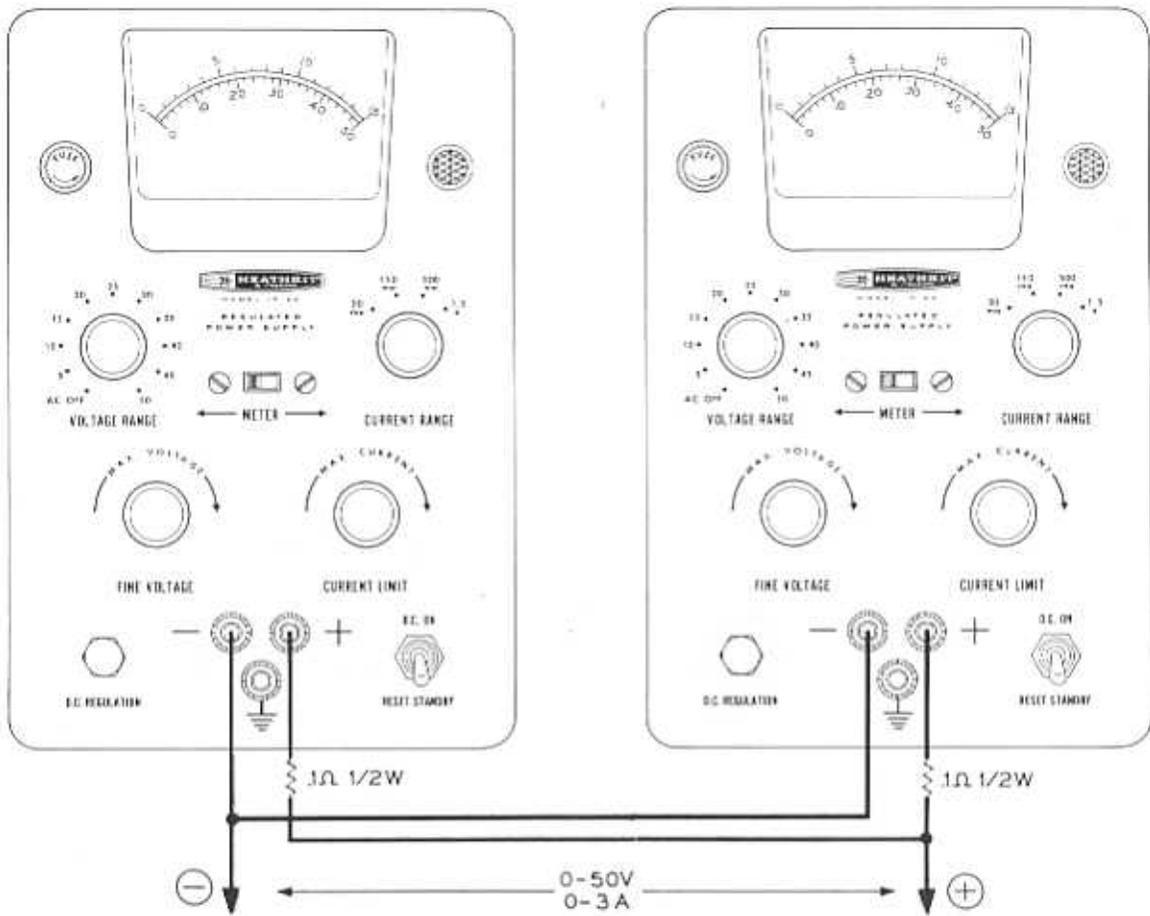

Figure 7
**PARALLEL OPERATION (FIGURE 7)**
Two or more Power Supplies can be connected in parallel for high current loads. See Figure 7 (fold-out from Page 30). Before connecting the Power Supplies in parallel set the VOLTAGE RANGE, FINE VOLTAGE, CURRENT RANGE, and CURRENT LIMIT controls on both Power Supplies so that the output of each Supply is identical to the other. A .1  $\Omega$  resistor is also